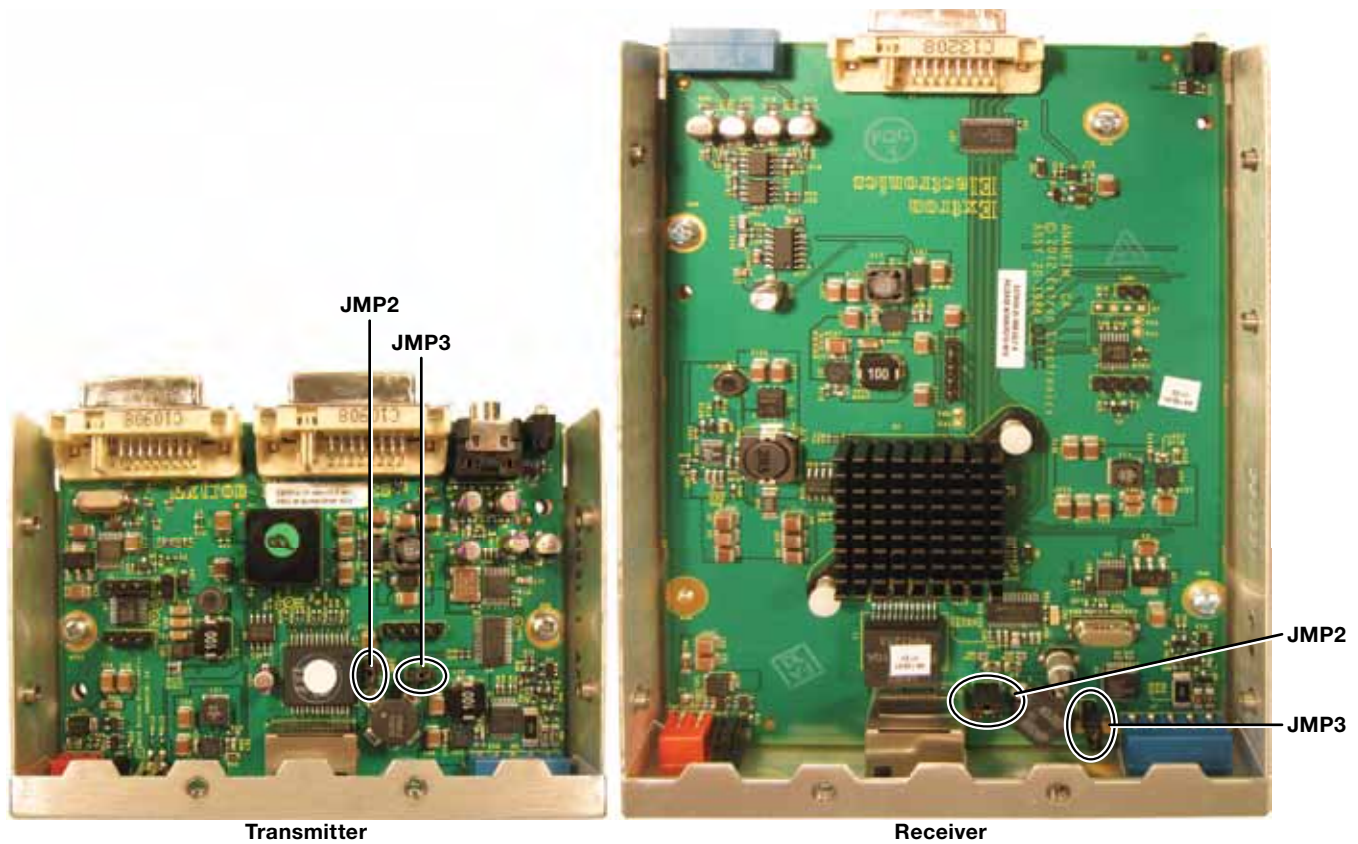

Figure 10. Jumper Locations
3. Locate, **lift off**, and discard jumpers JMP2 and JMP3 from both units (see figure 10).